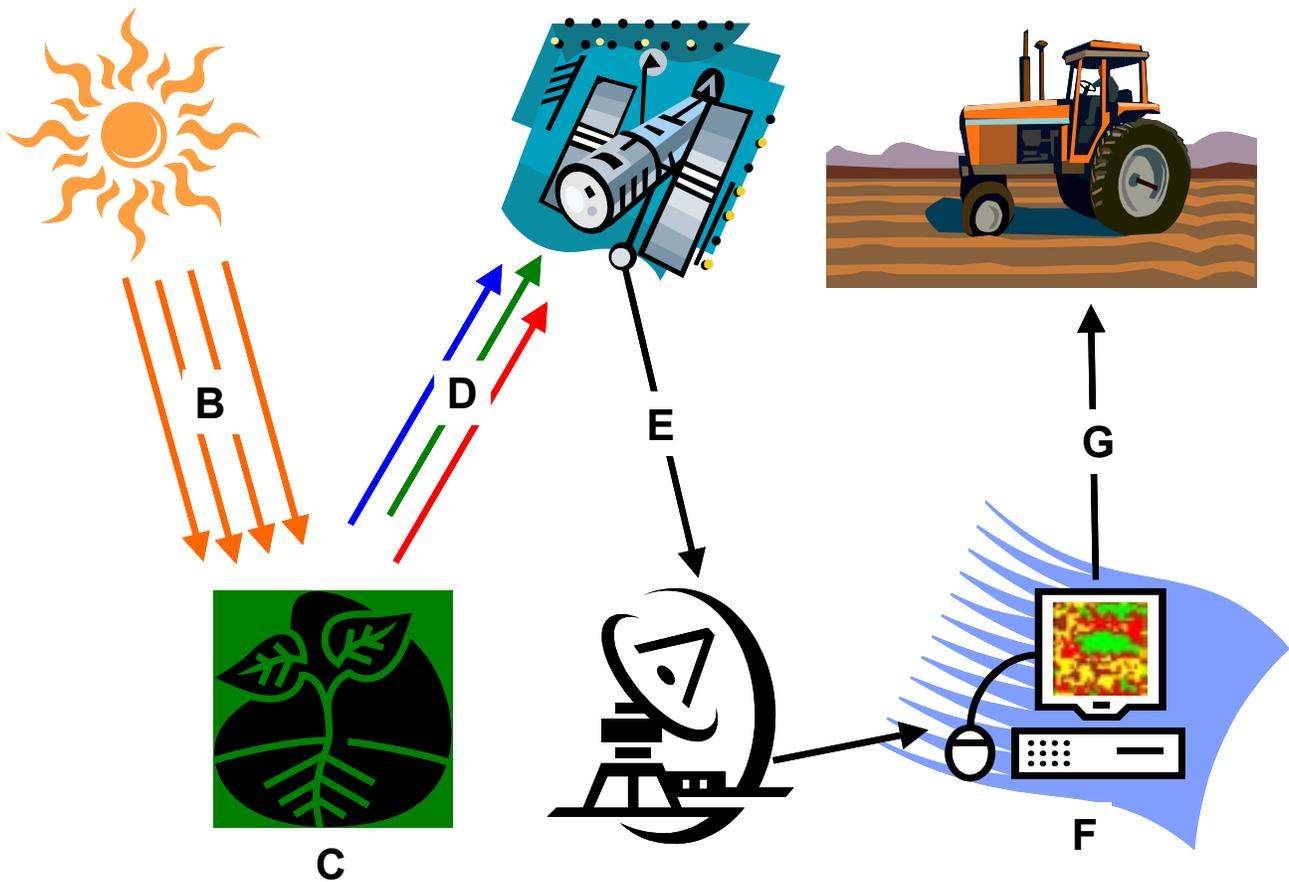

Figure 4. The remote sensing process.
Figure 4 illustrates a satellite remote sensing process as applied to agricultural monitoring processes. The sun (A) emits electromagnetic energy (B) to plants (C). A portion of the electromagnetic energy is transmitted through the leaves. The sensor on the satellite detects the reflected energy (D). The data is then transmitted to the ground station (E). The data is analyzed (F) and displayed on field maps (G).